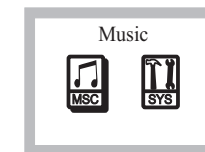

Fig. 17
- (K) Enter the Main Mode: USB flash drive not inserted or press & hold STOP button during playback.
- (1) Music Mode: Insert USB flash drive and press PLAY/PAUSE ⏸ to play music, Fig. 17.